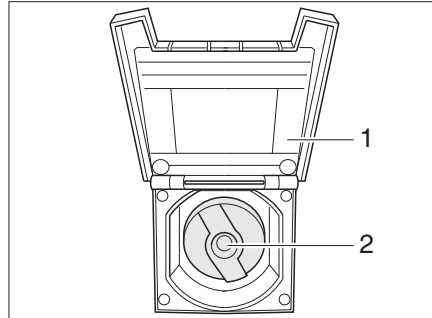

Fig. 137 Cap for the drinking water filler neck
- Open the cover flap (Fig. 137,1) of the drinking water filler neck.
- Insert the key into the locking cylinder (Fig. 137,2) and turn a quarter turn anti-clockwise.
- Close the cover flap (Fig. 137,1).
- Open the drinking water filler neck (Fig. 137).